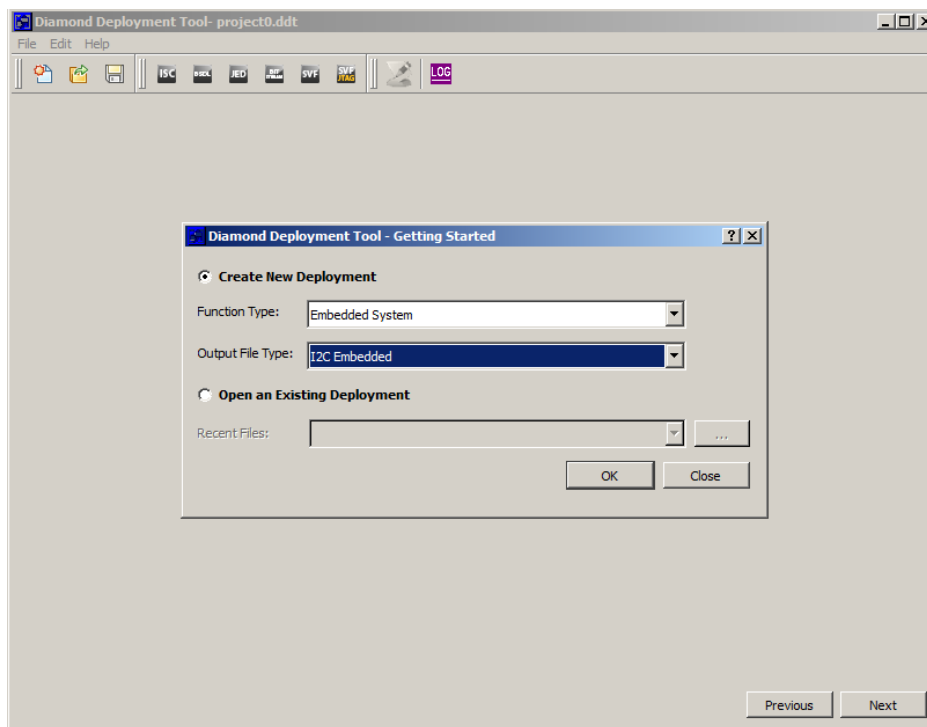

Figure 10.1. Starting Diamond Deployment Tool for I2C Embedded File Generation
1. From your PC, start Diamond Deployment Tool. Select **Create New Deployment** from the Getting Started dialog (Figure 10.1). Select **Embedded System** as the Function Type, and **I2C Embedded** as the Output File Type. Click **OK**.